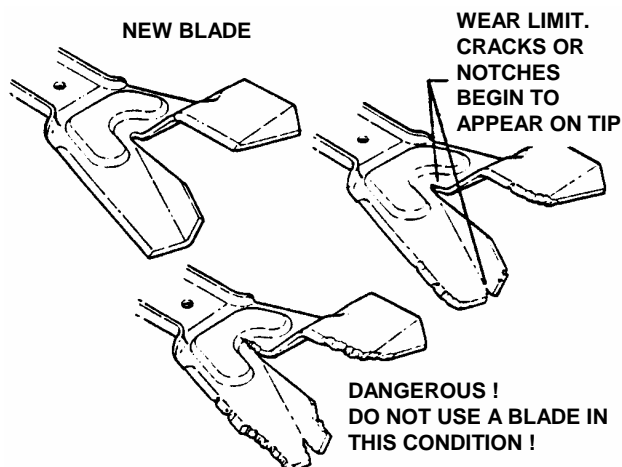

FIGURE 4.1A
- 1A. Inspect blade frequently for signs of excessive wear or damage. See Figure 4.1A.